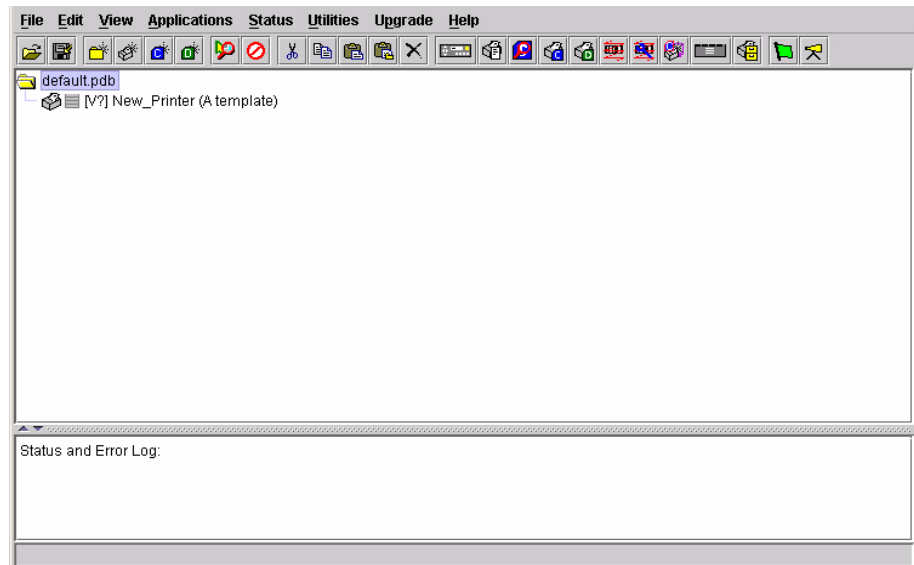

Figure 1. Printer Database Main Window
2. From your operating system, launch the remote management software. Click the splash screen to see the main window of the Printer Database more clearly. See Figure 1.